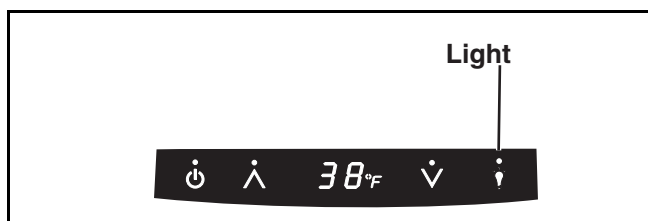

Figure 17
1. Touch and hold the LIGHT icon (**Figure 17**) for ten seconds and release (the °F symbol will flash briefly at the end of the five second period).